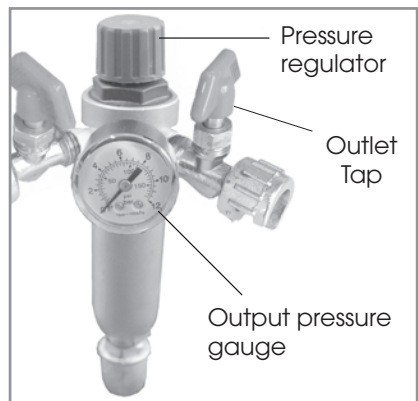

Figure 7
- 3 Select the pressure you need using the pressure regulator. See figure 7.